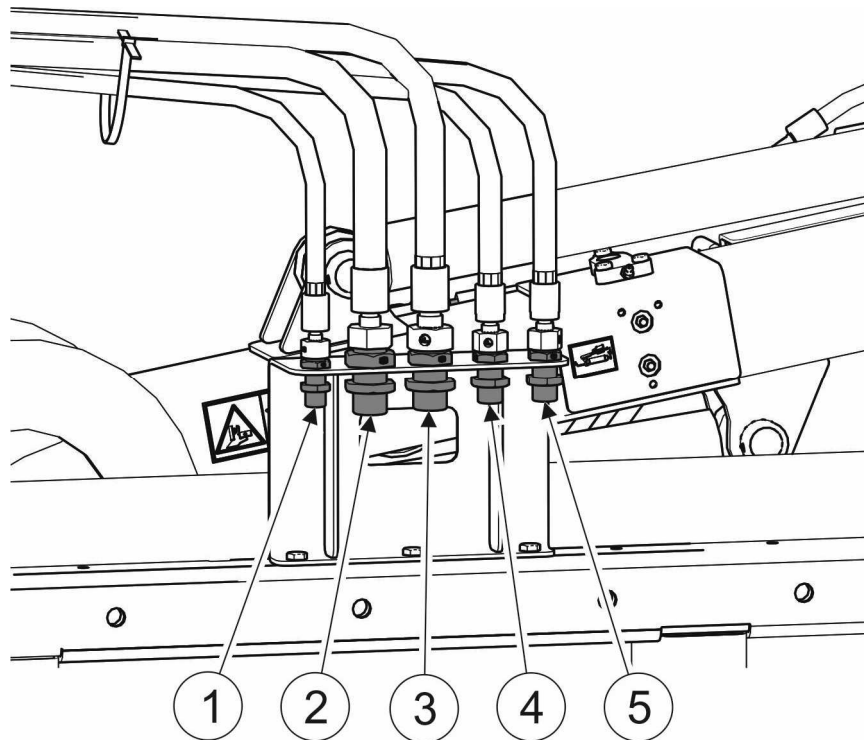

FIG. 4.1 Hydraulic arm quick coupling.
- o Wire (1) (Figure 4.1) with endings 12L-M18x1,5 – join it to “free sink”(engine leaks) to wire 330bar (male quick coupling, flat, M22x1,5 HS10-2-L1522)
- o Wire (2) (Figure 4.1) with endings 20S-M30x2 – join to cutting head drive - high pressure wire 350 bar (male quick coupling, flat, M30x2 HS 20-1-S2030)
- o Wire (3) (Figure 4.1) with endings 22L-M30x2 – join for oil reverse from cutting head – 105 bar wire (female quick coupling M30x2 HS 20-2-L2230)
- o Wire (4) (Figure 4.1) with endings 15L-M22x1,5 – join for valve block supply – wire 275 bar supply (male quick coupling 1/2” HQ 12-M-08G)
- o Wire (5) (Figure 4.1) with endings 15L-M22,5x1,5 – join for valve block oil reverse – wire 275 bar (male quick coupling 1/2” HQ 12-M-08G).
Wires number 1,2 and 3 (Figure 4.1) are responsible for cutting head. Number 4 and 5 are responsible for hydraulic arm movements.